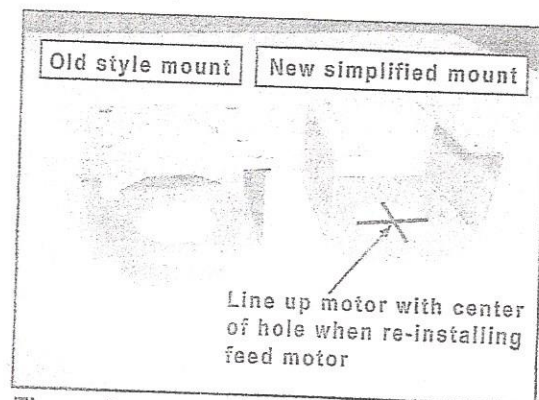

Figure 3
If you have an older mount, replace with new one supplied. Figure 3. Skip to Step 6.
- Take care not to drop set collar or nylon bearing as you pull auger from the assembly. Set new motor on mount so shaft lines up with center of bottom hole in mount. Figure 3, page 1. Re-secure with screws.